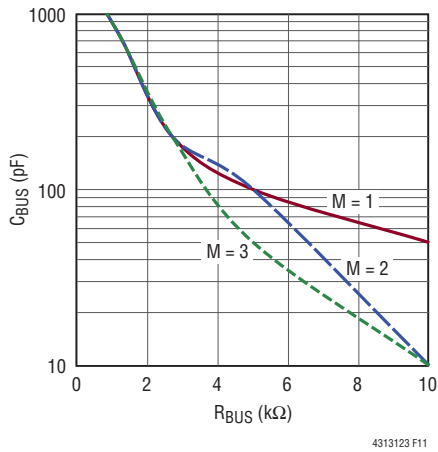

Figure 11. Recommended Maximum R1 and C_{B1} Values for the LTC4313 Operating with Multiple LTC4300As in a 3.3V System
- For 3.3V systems, refer to Figures 11 and 12 for operation with LTC4300As and LTC4307s. In the figures,